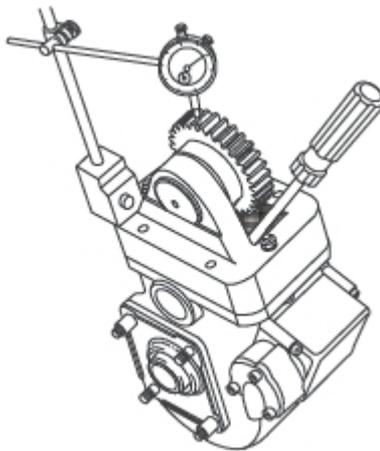

Figure 18 Checking Adaptor to PTO Backlash
- b. Install a dial indicator on the adaptor housing with the dial indicator plunger resting squarely on the adaptor gear (Figure 18).